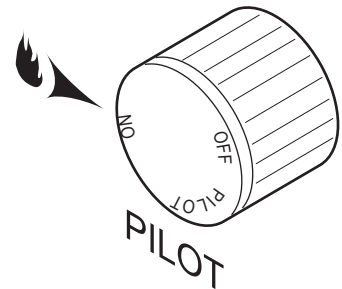

Figure 48 - On Position
Depress and turn the knob counterclockwise ↶ to the “ON” position. *Figure 48*. It will take less than four (4) seconds for the burner to ignite.